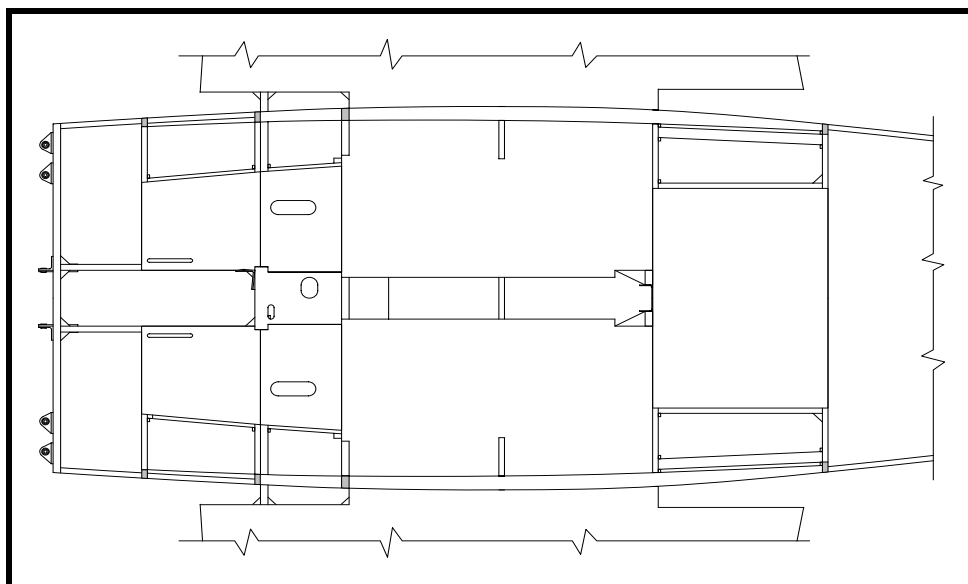

Figure 21
- ❑ Cut and fit the removable center floor board for the luggage compartment floor. See Figure 21. Do not install any of the screws yet since their location may conflict with the installation of the strobe power supply.